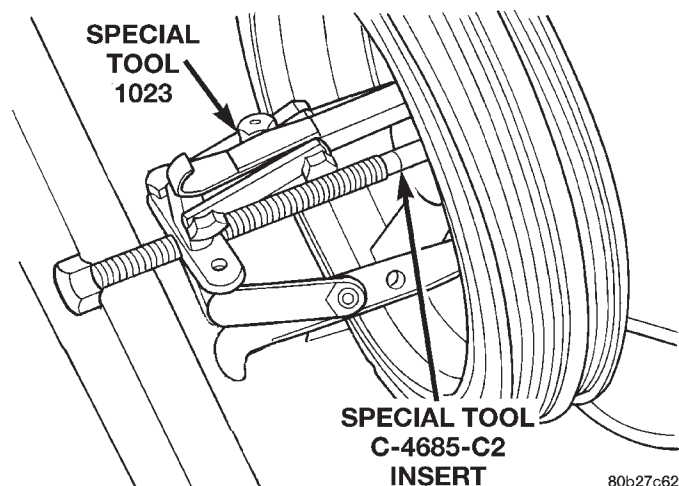

Fig. 32 Crankshaft Damper—Removal
- (6) Use Special Tool 1023 puller, and insert C-4685-C2, remove crankshaft damper (Fig. 32).